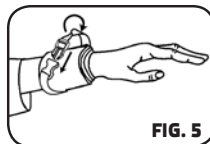

FIG. 5
- 2790-Pass the end of the limb strap over the top of the cuff and through the two D-rings on the cuff. Bring the strap back over the first ring and through the two D-rings on the cuff. 2790Q-Release the quick-release buckle, twist, and reconnect (fig. 5). Listen for a "snapping" sound. Pull firmly on straps to ensure a good connection.